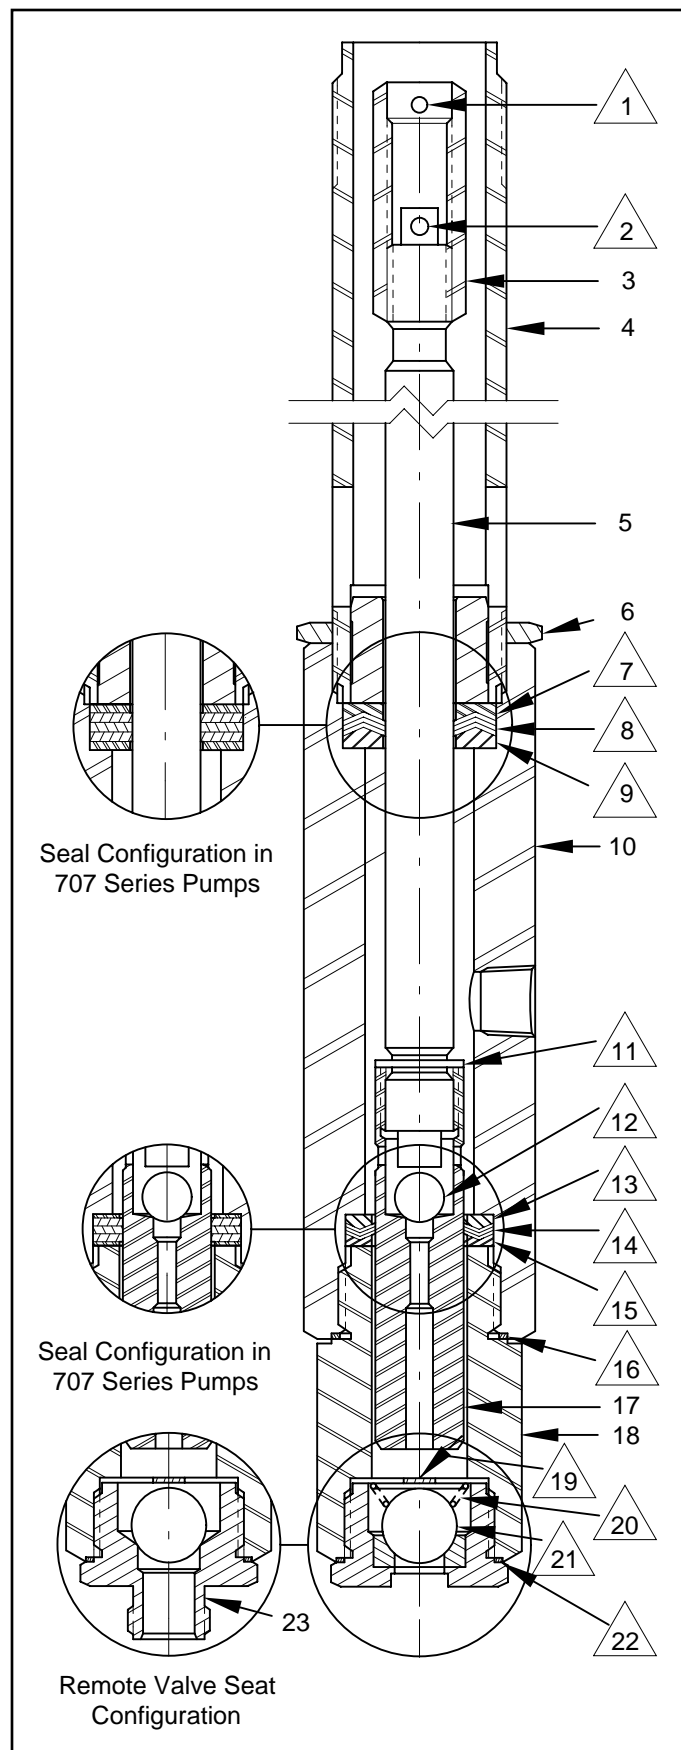

Figure 2 Typical Material and Paint Pump Tube Assembly
The material and paint pump models listed in **Table 1** are rebuilt with major Teflon repair kit number **327580-1**. See **Figure 2**.
Figure 2 also lists additional wear items not available in kit form. These parts are interchangeable between all the pump models.
- **NOTE:** Refer to **Figure 2** for component identification on pump tube disassembly procedures.
1. Clamp the Lower Body (10) in a soft-jaw vise.
- Make sure Tube and Bushing assembly (4) faces upward.
2. Loosen Locknut (6) that secures the Tube and Bushing assembly to the Lower Body.
Refer to **Figure 2** for component identification on pump tube assembly procedures.
5. Install Male Support Ring (9), three Upper Teflon Packing Rings (8) [small inside diameter], and Female Back-Up Ring (7) onto Piston Rod (5).
- Make sure the Rings face as shown in **Figure 2**.
6. Install small Ball (12) into Piston (17).
- This sets the proper free-play for Ball (12).
9. Install long Roll Pin (11) with a hammer.
11. Place Lower Body (10) in a vise with the outlet port closest to the top.
- **IMPORTANT:** **Figure 2** illustrates the Lower Teflon Packing Rings with the pump tube in the normal operation position. Keep in mind that the following step is into the bottom of the Lower Body.
12. Install Male Support Ring (13), three Lower Teflon Packing Rings (14) [large inside diameter], and Female Back-Up Ring (15) into the Lower Body.
13. Install Gasket (16) into the Lower Body.